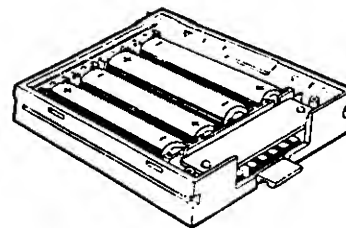

Figure 740-3 PC-8300 Battery Installation
3. Install four AA size dry batteries in the battery compartment. See Figure 740-3.